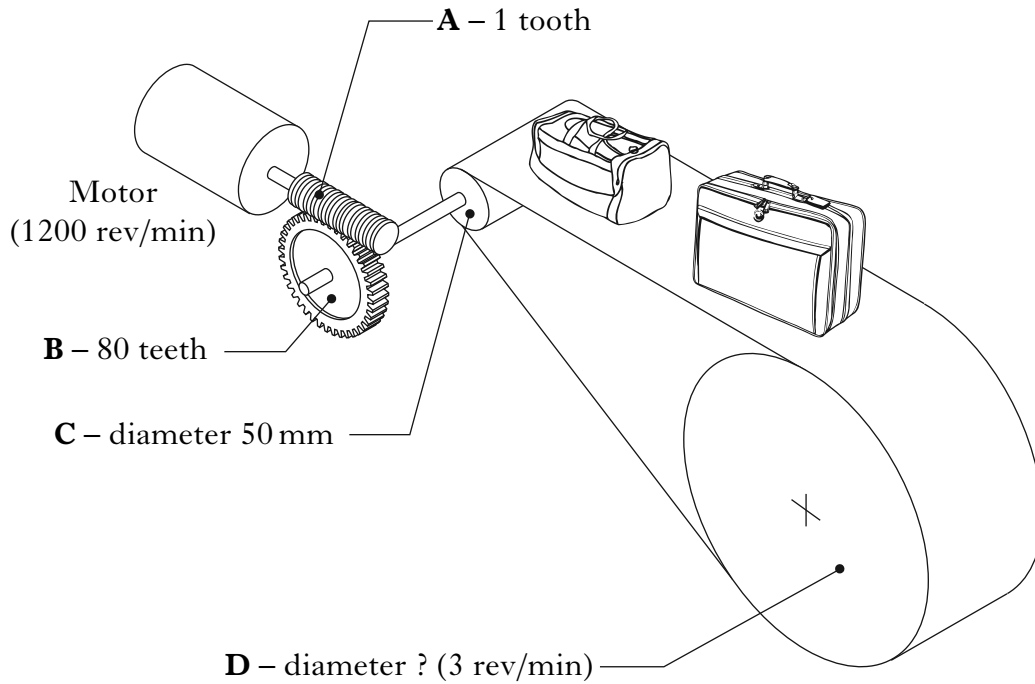

Figure Q7(a)
7. The drive system used in an airport luggage conveyor is shown in Figure Q7(a).